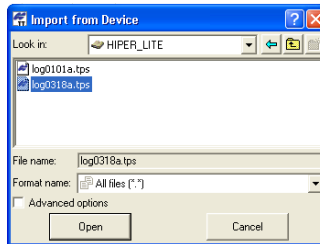

Figure 3-40. Select the TSV File to Convert and Import
5. To import the file(s) from the controller to the current job and convert them to *.tsv files, set the corresponding file format in the *Format name* field and click **Open** (Figure 3-40).